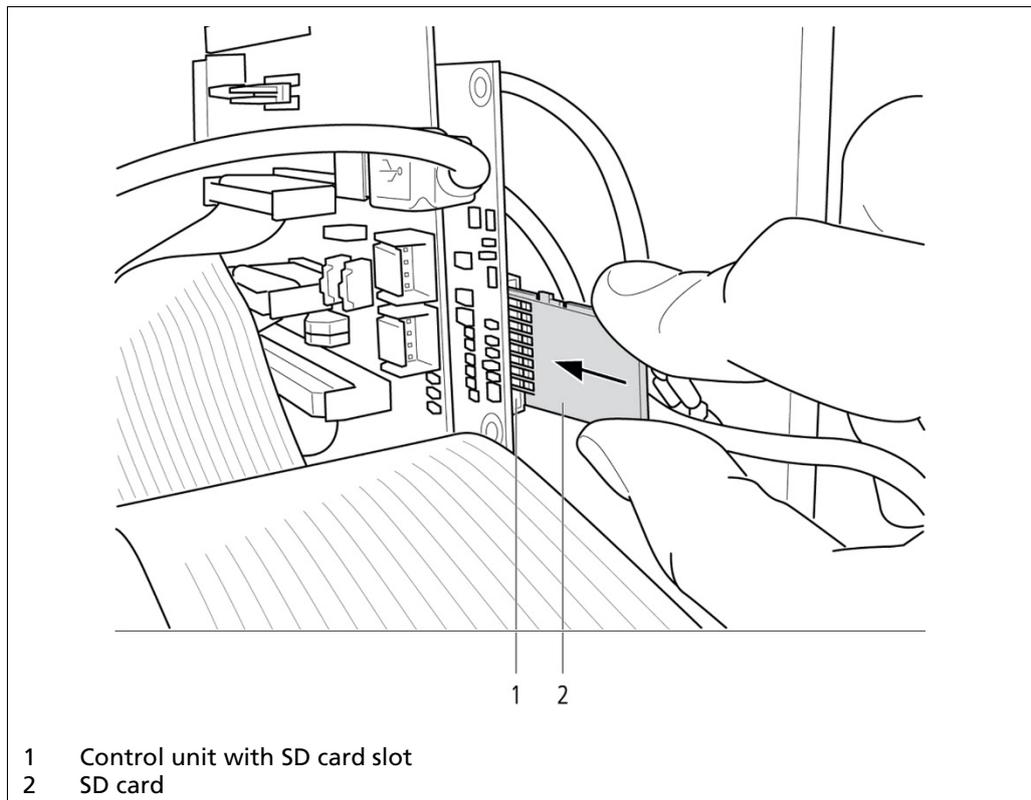

Fig. 13 Control Unit, Installation of the SD Card
3. Push the SD card (Fig. 13, Item 2) into the SD card slot (Fig. 13, Item 1) on the control unit until the SD card snaps into place.